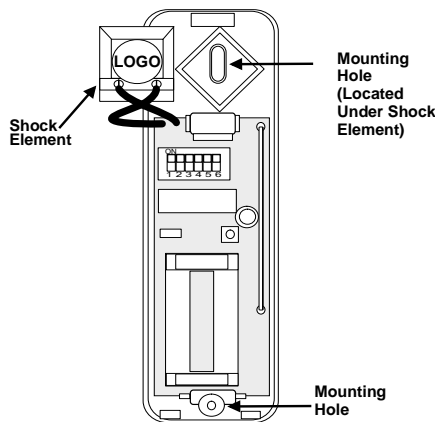

Figure 6. Sensor base mounting holes
2. Using the flathead mounting screws, secure the base to the mounting surface either vertically or horizontally as required (see Figure 6).